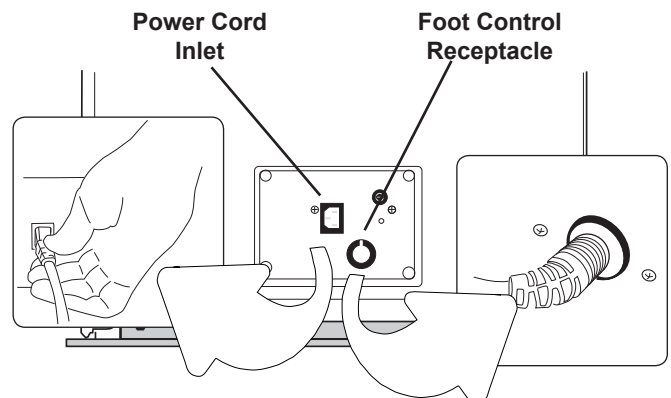
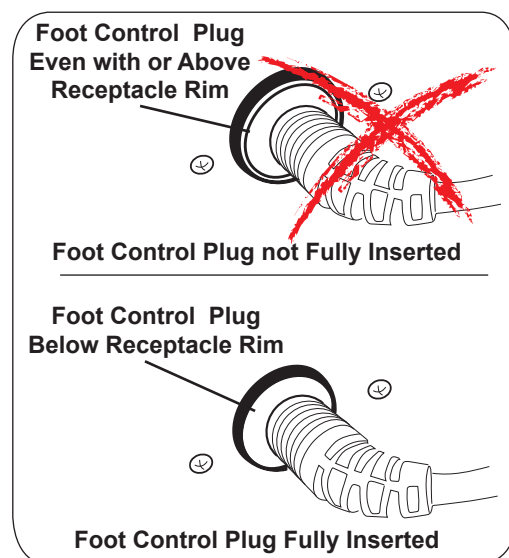
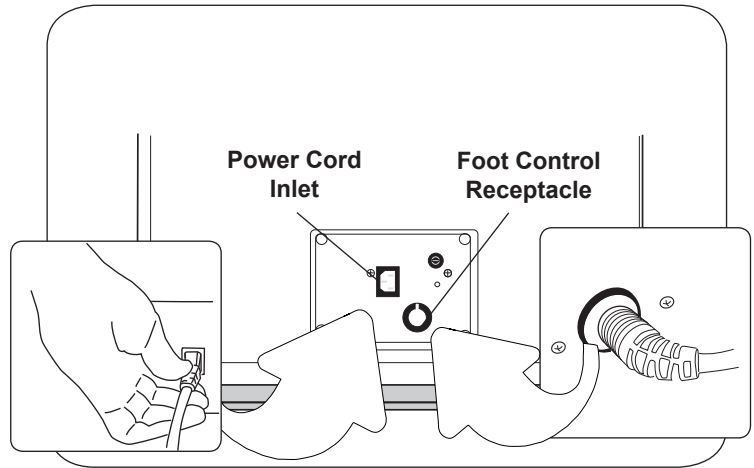

Figure 5. Power Cord and Foot Control Plug-ins
Figure 6. Foot Control Properly Pugged In
Figure 17 Foot Control and Power Cord Receptacles
7. Insert the foot control cord into the receptacle at the bottom of the rear panel (Figure 5). Note: Make sure the tab on the plug is aligned with the slot in the receptacle. The plug may appear to be fully inserted and yet have some distance to go. Wiggle the foot control plug while pushing it in firmly to ensure that it is fully seated (Figure 6).
9. Plug the power cord into the receptacle at the bottom of the rear panel (Figure 5). Plug the power cord into a 115 Volt grounded receptacle.
2. Insert the female plug end of the power cord into the receptacle on the table (Figure 17). Make sure the plug is fully seated.
2. Insert the male plug of the foot control cord into the receptacle on the table (Figure 17). Make sure the plug is fully seated. See Figure 6 for proper insertion of the foot control plug. Failure to properly insert the foot control plug can cause some functions to not operate properly.